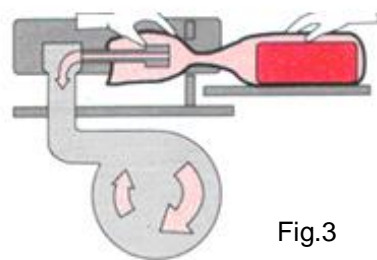

Fig.3
-Place the bag containing the product on the special tray of the machine, and put the open part of the bag on the nozzle (Fig. 3)